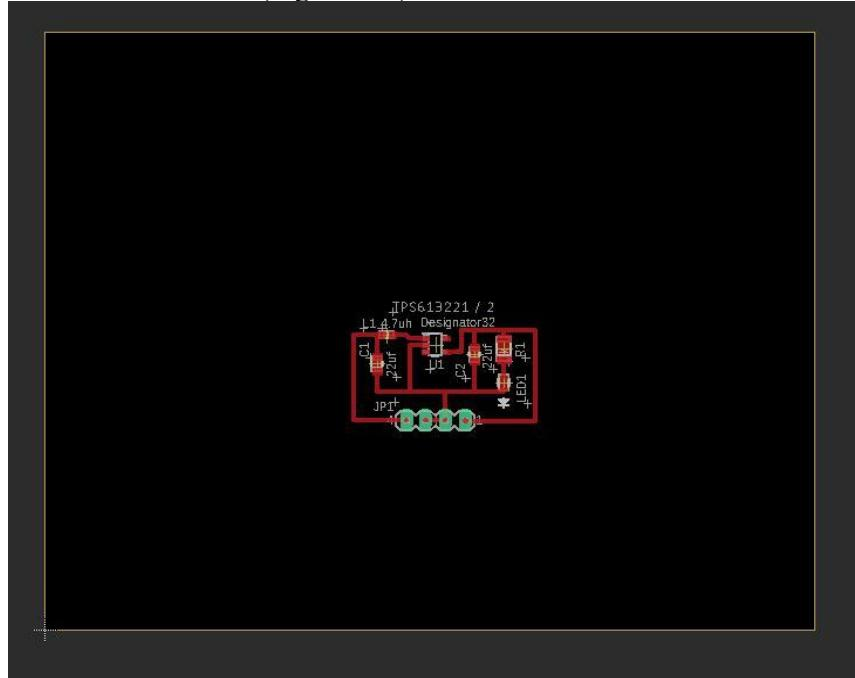
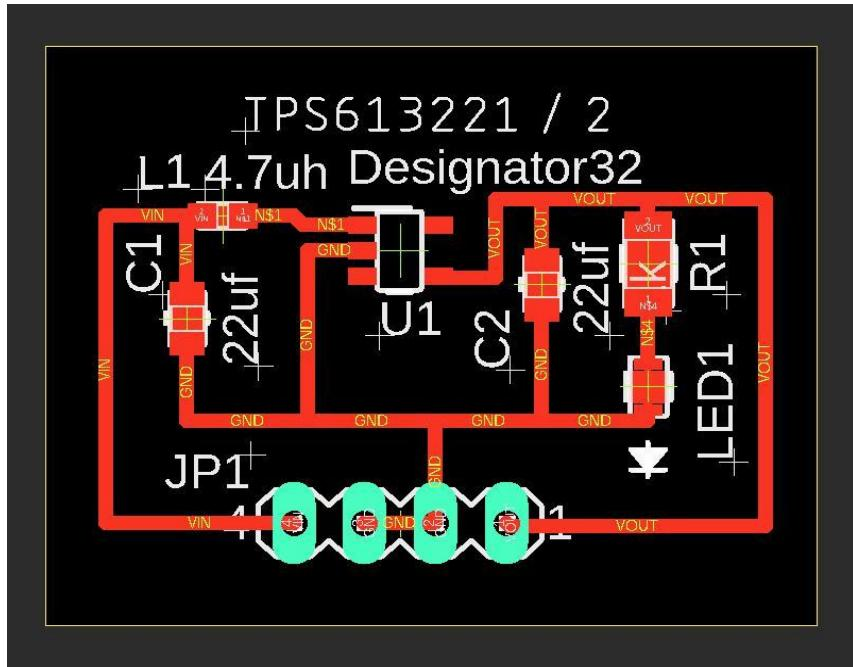

Figure 24a: Board window showing total board area.
Figure 24b: Board window showing resized board.
3.23: Now that we have the board laid out, we can resize the board as required. Zoom out until the border around the board is present as shown in Figure 24a. Using the move tool highlights the board border and resizes the board to the desired amount (Figure 24b).